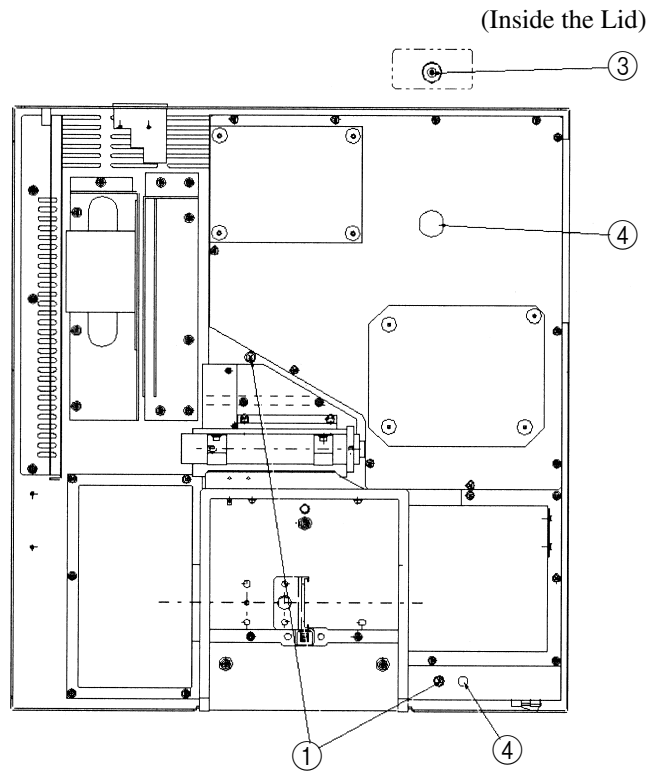

Fig. 3.2 Removing the clamp
- 3) Loosen two screws (① in the figure 3.2) that clamp the optical bench of the interferometer. Completely remove front one of them.
- 4) Next, remove the clamp rod of the moving mirror of the interferometer. First, loosen and open the lid (② in the figure 3.2) to see the top of the moving mirror clamp rod (③ in the figure 3.2).
- 5) Insert the removed M5 screw into this screw hole of the clamp rod and pull it out to remove it. Attach this removed clamp rod into the optical bench hole (④ in the figure 3.2) for storage. Also, attach the M5 screw on the previous position. (Do not tighten)